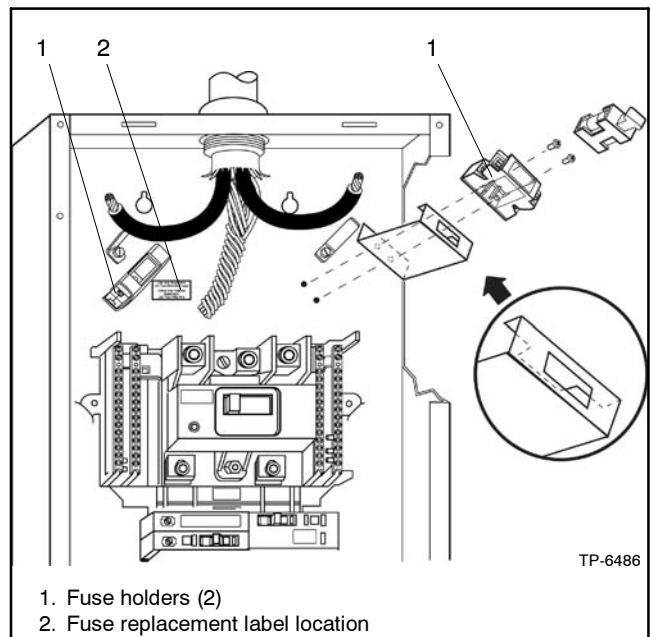
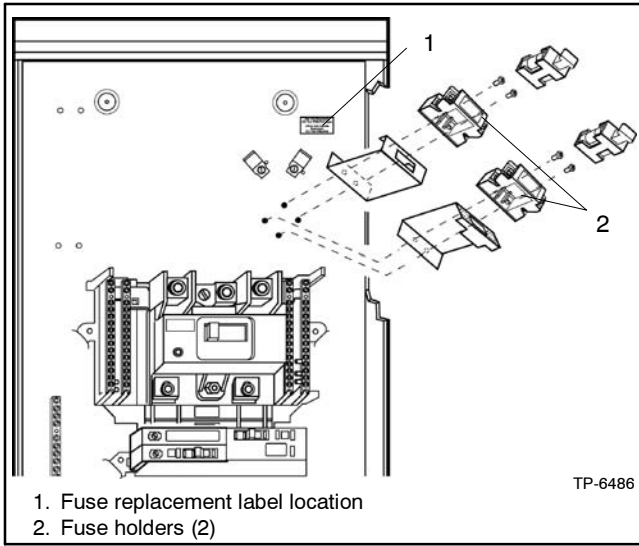

Figure 2-11 Mounting Fuse Holders GM48746, Type 1 Enclosures
Figure 2-12 Mounting Fuse Holders GM48746, Type 3R Enclosures
1. Install the two fuse holders (GM48746) in the load center cabinet and secure each with two screws (GM48748) using a cross driver. Torque screws to 3.4 Nm (30 in. lb.). Refer to Figure 2-11 for Type 1 enclosures and Figure 2-12 for Type 3R enclosures.
2. Apply the fuse replacement label, GM40861, as shown in Figure 2-11 or Figure 2-12.